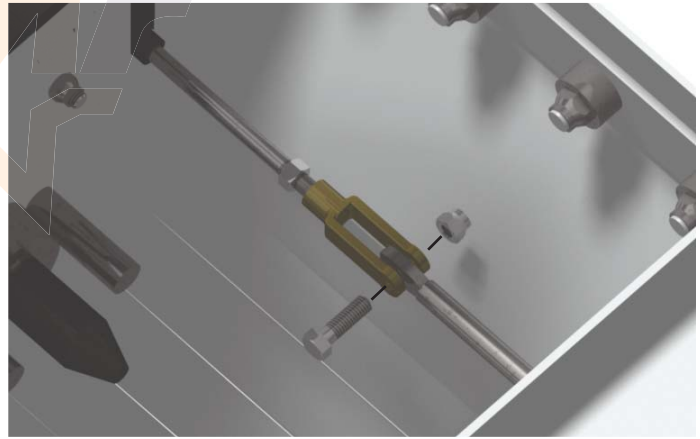

Figure 25
Using one (1) 3/8" X 1 1/4" Bolt and one (1) 3/8" Nylon Locknut, tighten the Shifter Arm's Clevis to the U-Trough's Shifter Rod (see **Figure 25**).